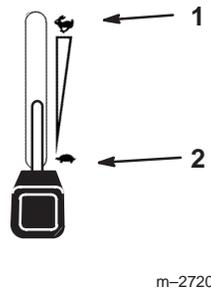

Figure 17
5. Move the throttle control to the “FAST” position before starting a cold engine (Fig. 17).
1. Move the throttle lever to “SLOW” (Fig. 17).